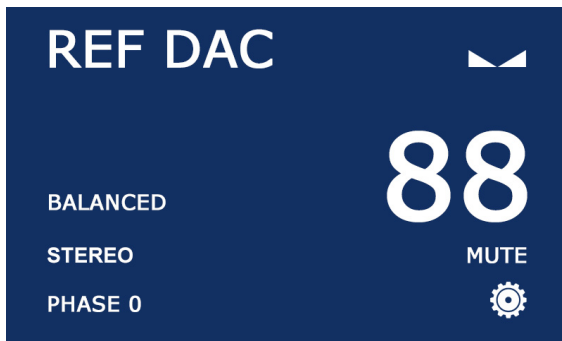

fig. 6
**Balanced/SE, Stereo/Mono, Phase 0/180:** To change any of these functions, touch the word you wish to affect and it will toggle between the two different options for each category (fig. 6).